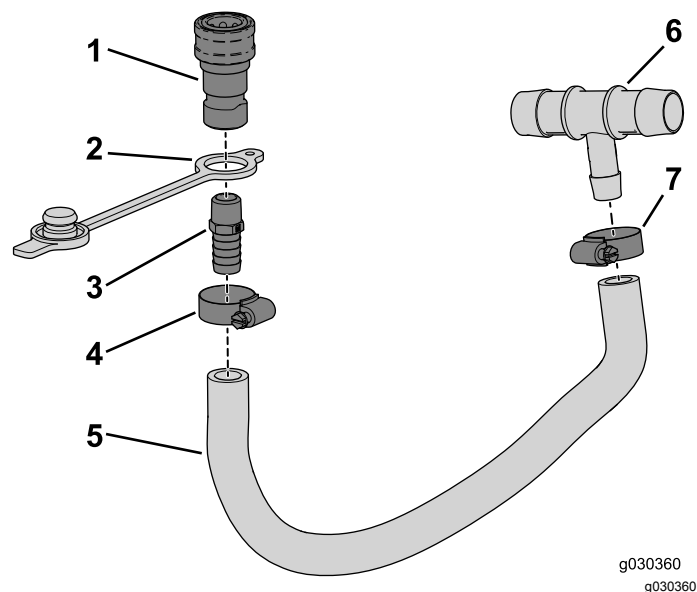

Figure 9
2. Slide the dust plug over the threaded end of the straight fitting (Figure 9).
3. Thread the straight fitting (3/8 NPT x 0.625 barb) to the female coupler (Figure 9).
6. Insert the barbed end of the assembly into the hose and secure it with the hose clamp (1/2 to 1-1/4 inches) as shown in Figure 9.
7. Insert the barbed end of the tee fitting into the hose and secure it with the hose clamp (1/2 to 1-1/4 inches) as shown in Figure 9.
1. Remove the caps covering the holes in the support tube (Figure 9).